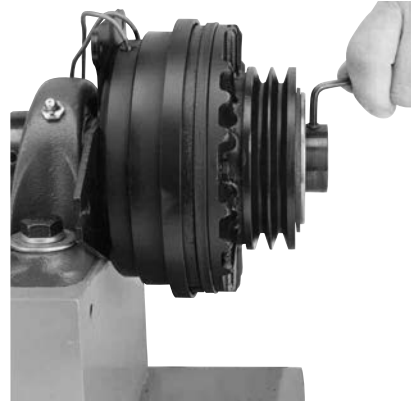

Figure 20
4. Loosen the setscrews (Item 8) which hold the clutch to its shaft. (See Figure 20)